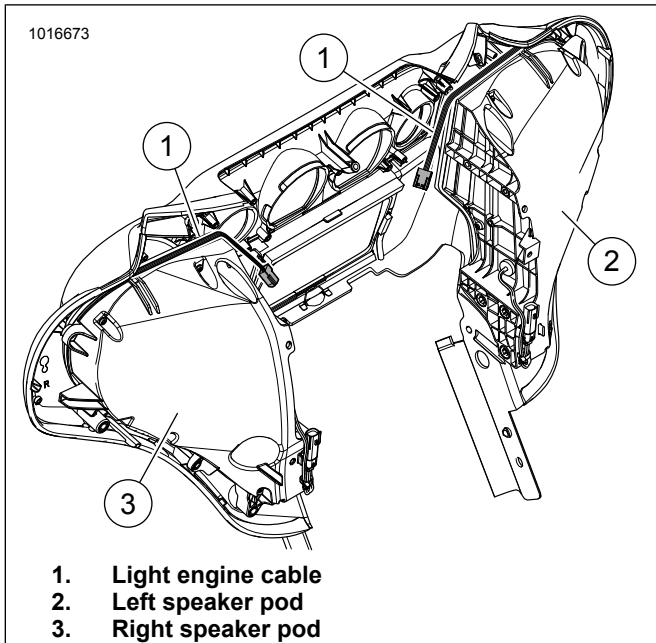

Figure 7. FLH Fairing Shown, FLTR Cable Routing is Similar
7. See Figure 7. Route light engine cable (1) as shown.